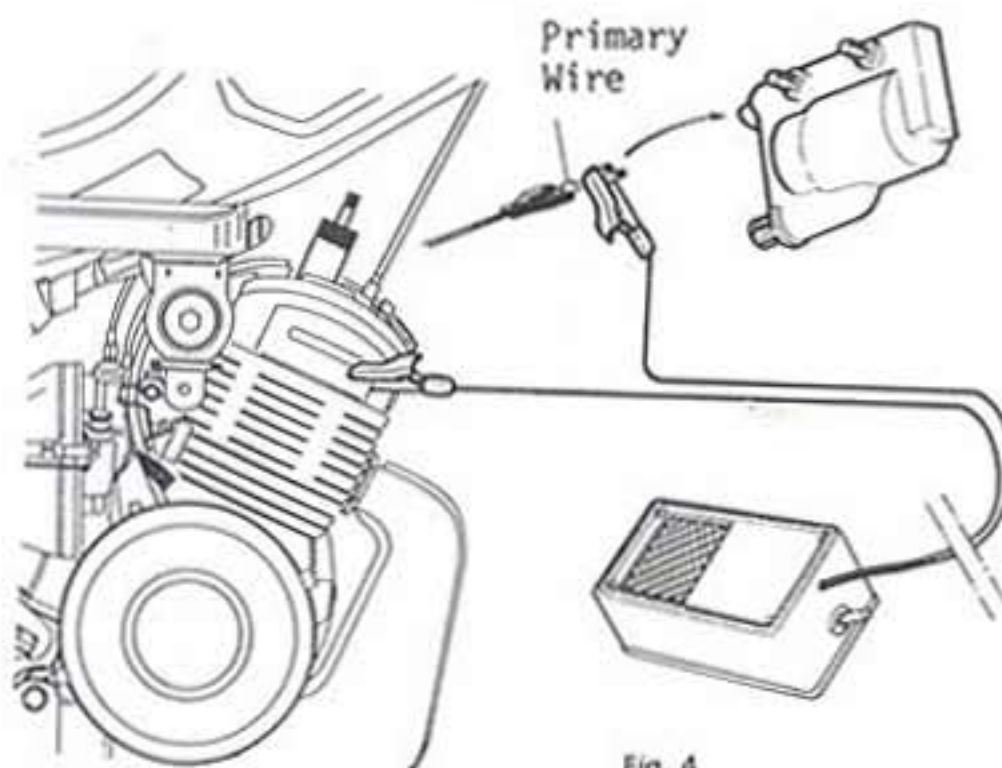

Fig. 4
4. Rotate the rotor clockwise one full revolution and as the blue stripe just begins to appear, the ohm meter should deflect to  $\infty$ . Points just begin to open. If a timing lite/tester is used, the light will go "ON" (fig. 4). (See note, page 26.)